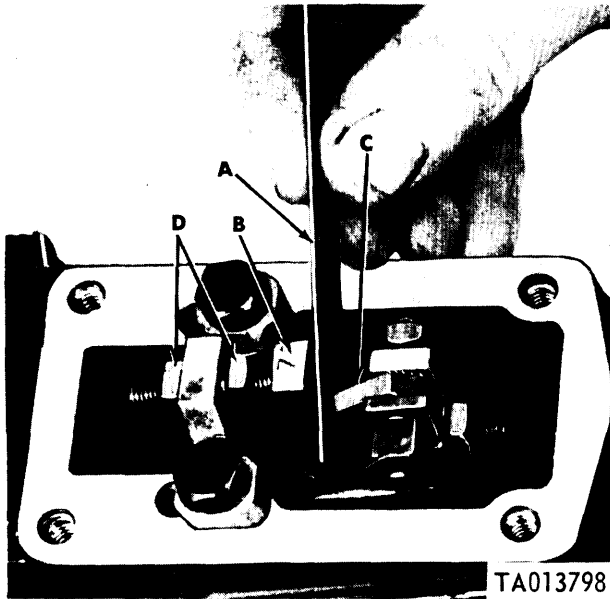

Figure 3-157. Checking stop plate and smoke limit cam clearance (code G pumps).
(2) Refer to figure 3-157. With throttle lever secured in full fuel position, insert a feeler gage (A) between the stop plate (B) and smoke limit cam (C) and adjust locknuts (D) of droop plate screw to obtain a preliminary adjustment clearance of 0.020-inch.